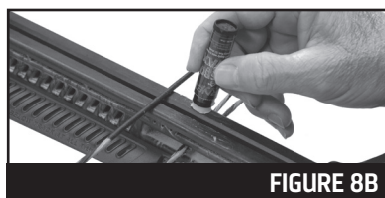

FIGURE 8B
4. Apply wax in a similar fashion to the arrow/flight track. Refer to Figure 8B.